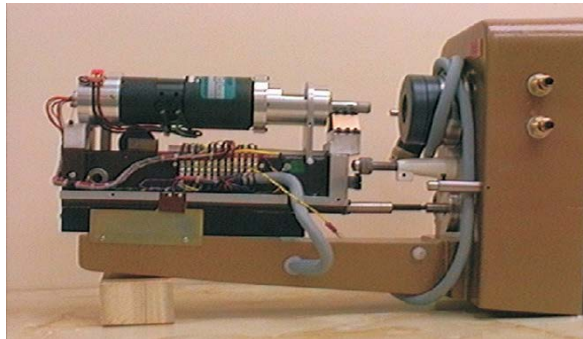

Figure 57: Instrument on its Back with Block for Support
3. Lay the instrument on its back on the bench. Rest the pillar on a wooden block about 38 mm/40 mm thick. Remove the bottom cover by removing three screws. Refer to Figure 57.